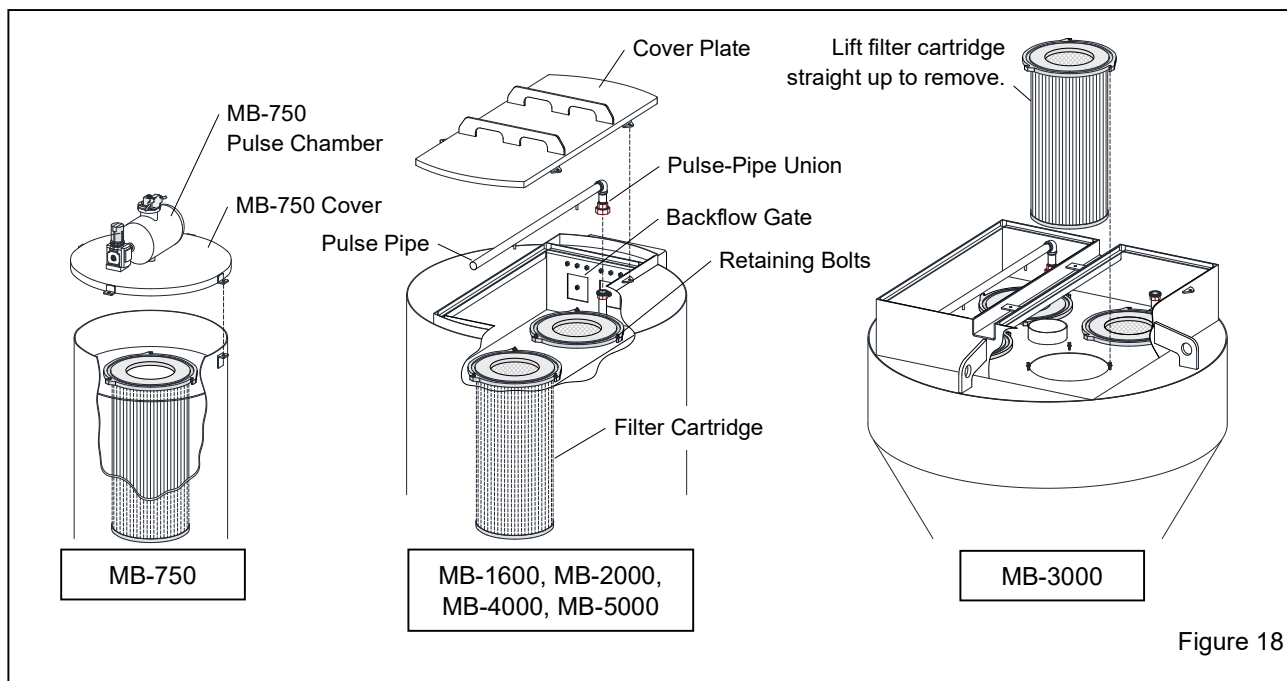

Figure 18
9.3 Inspect and Replace Filter Cartridges Figure 18